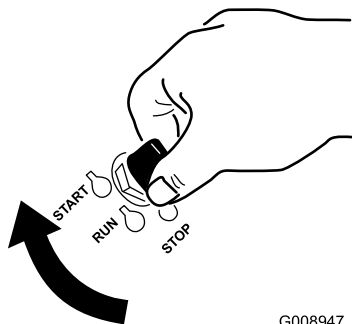

Figure 22
- Turn the ignition key to the START position (Figure 22).